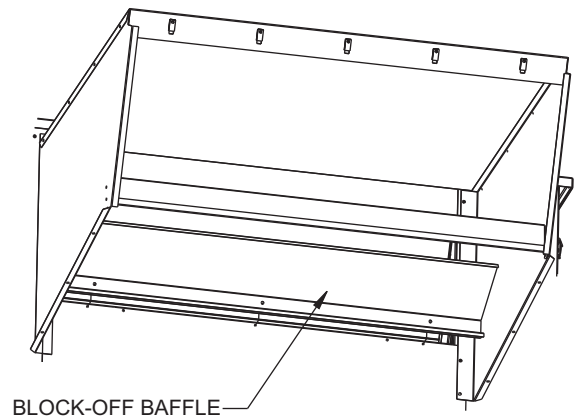

Fig. 31 — Mounting Block-Off Baffle to the Unit
9. Locate and mount block-off baffle using 3 screws. See Fig. 31.